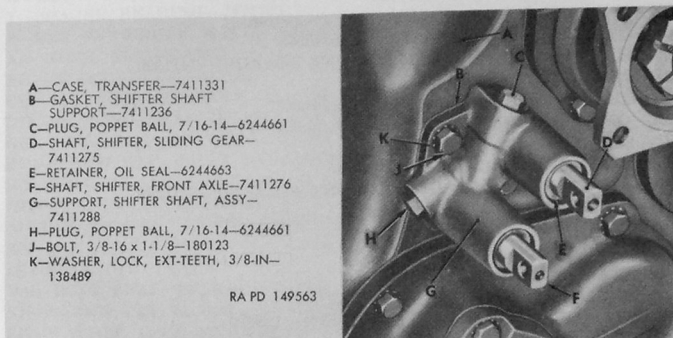

Figure 53. Transfer shifter shafts installed.
a. Clean exposed portion of shifter shafts (fig. 53). Remove poppet ball plugs from shifter shaft support.
b. Remove two bolts ((J), fig. 53) and lock washers ((K), fig. 53) holding shifter shaft support assembly (Z) on front of transfer case. While holding front axle shifter fork (R) and shifter shaft rear spring (H) inside transfer case, remove front axle shifter shaft (V), shifter shaft front spring (S), and support from front of case. Remove fork and rear spring from inside case. Remove support gasket.